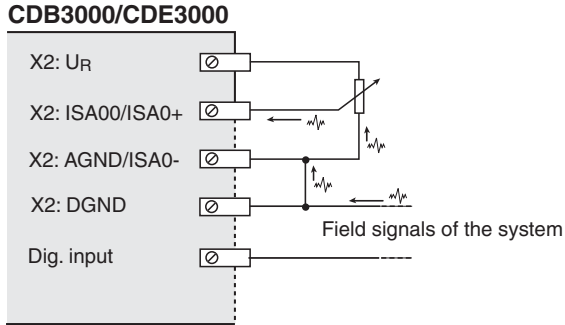

Figure 3.13 Interference on the analog input in the event of defective wiring
**Attention:** The ground connection or routing into the system must not be made via the analog ground (terminal 4 on the CDB3000, terminals 4/6 on the CDE3000). It may only be connected via one of the DGND terminals (see Figure 3.13).